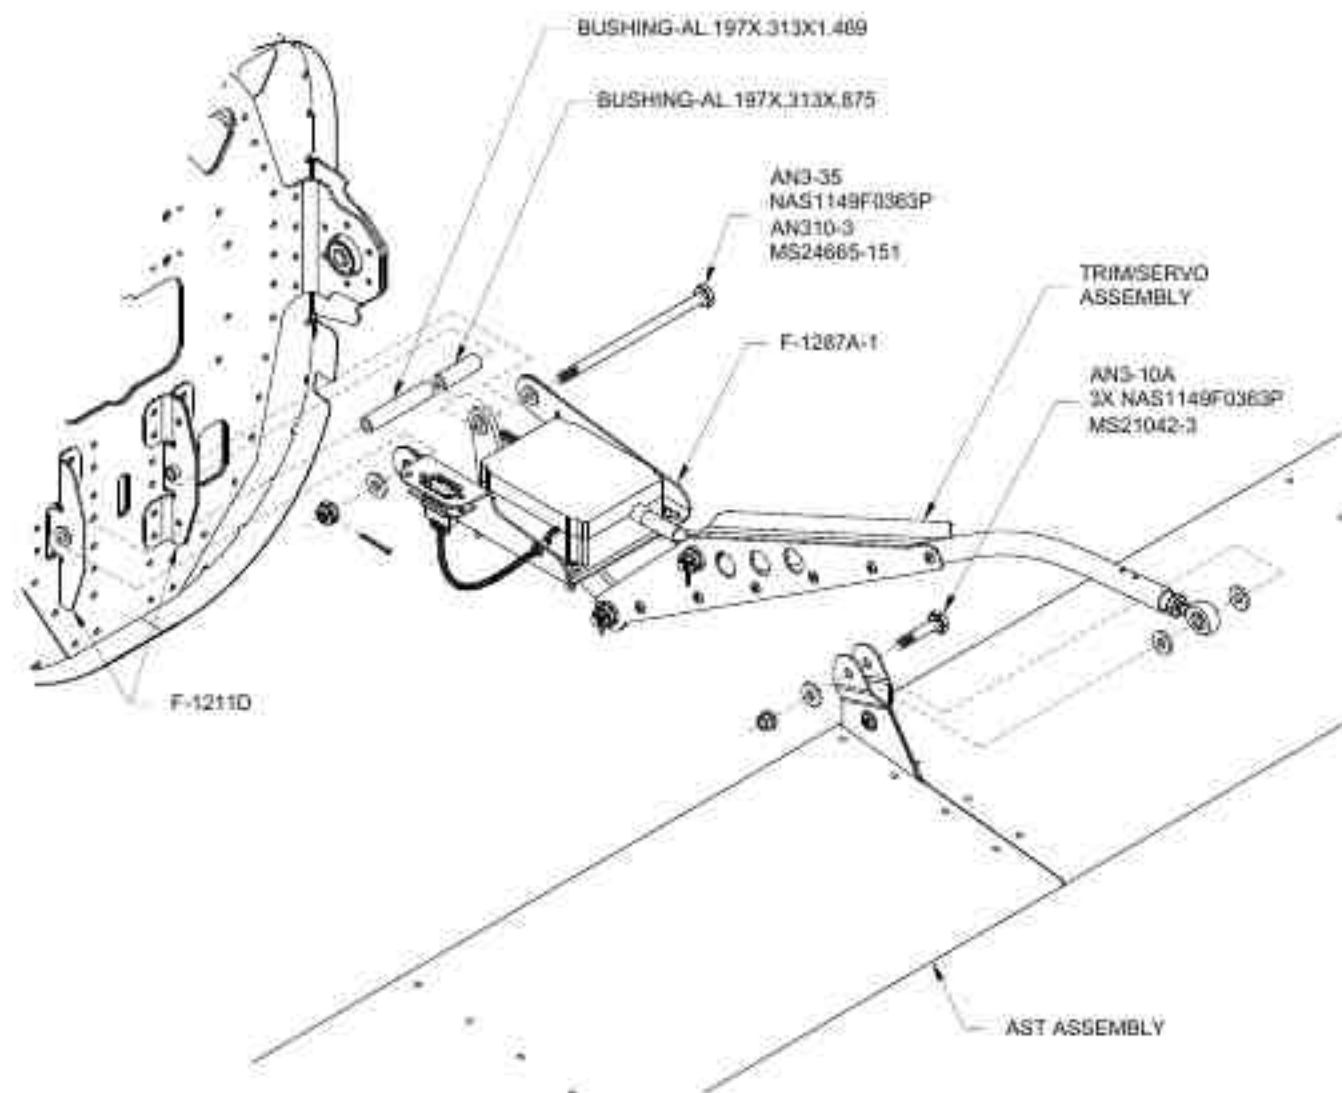

FIGURE 2: TRIM/SERVO ASSEMBLY INSTALLATION
Step 2: From below the Stabilator Assembly, guide the rod end bearing of the Trim/Servo Assembly up between the stabilator main skins to the AST Assembly control horns as shown in Figure 2.
Step 3: Install the F-1287A-1 Servo Tray to the F-1211D Attach Brackets using the hardware called out in Figure 2. Prior to Section 38(S/U) Airframe Assembly, separate the legs of the cotter pin only enough to hold it in the hole until final installation. Fully install this cotter pin after the tailcone is attached to the fuselage.
Step 4: Temporarily install the rod end bearing to the AST Assemblies using the hardware called out in Figure 2.
Check the Stabilizer Assembly movement to make sure it swings freely. Stabilizer travel in both directions should be limited only by the stabilizer hinge stops contacting the F-1211C tailcone hinge bracket. (Refer to Page 11-3, Figure 2, Detail A-A.)